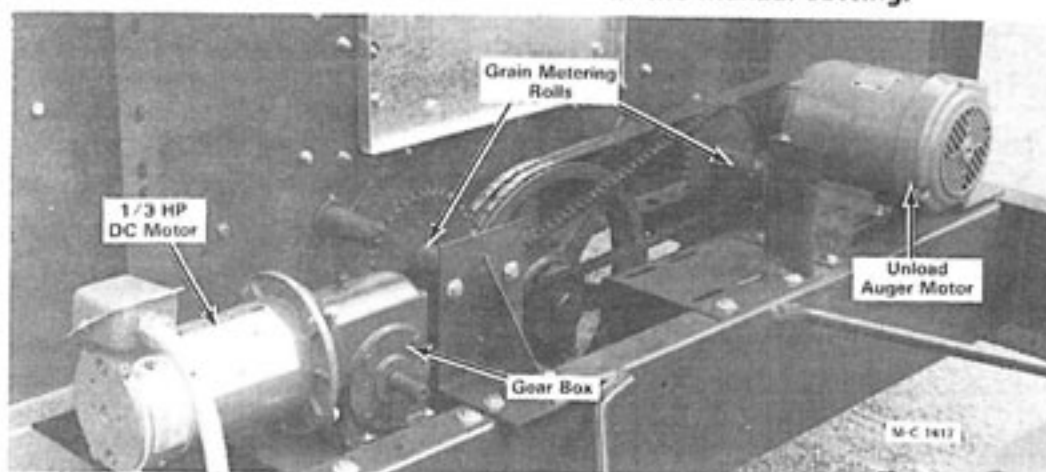

Figure 21
(See Figure 21)
1. Set the adjustable level auger delay, Figure 21, for time desired (.1 to 8 minutes).